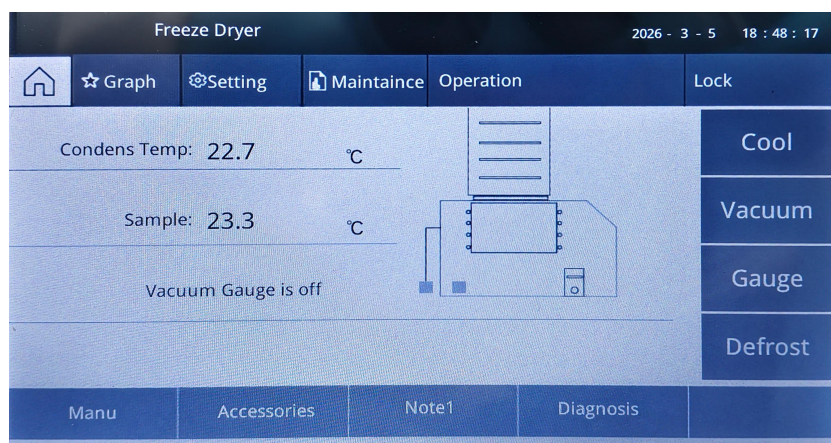

Figure 7-1: Operation and Status Display Window
(1) Turn on the Main Power switch. The system will display the company logo and name. Press the “Confirm” button to automatically enter the “Operation and Status Display” interface (See Figure 7-1).